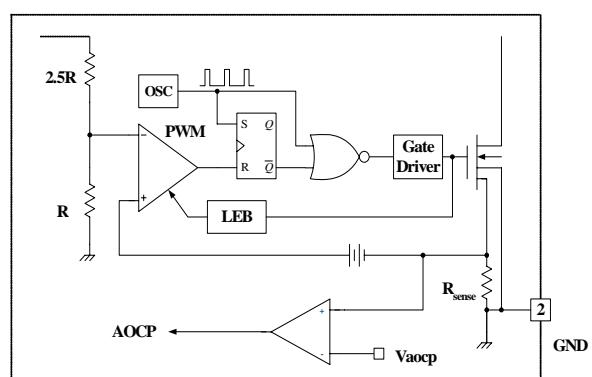

Figure 14. AOCP Block
**4.2 Abnormal Over Current Protection (AOCP):** When the secondary rectifier diodes or the transformer pins are shorted, a steep current with extremely high  $di/dt$  can flow through the SenseFET during the LEB time. Even though the FSCQ-Series has OLP (Over Load Protection), it is not enough to protect the FSCQ-Series in that abnormal case, since severe current stress will be imposed on the SenseFET until the OLP triggers. The FSCQ-Series has an internal AOCP (Abnormal Over Current Protection) circuit as shown in Figure 14. When the gate turn-on signal is applied to the power SenseFET, the AOCP block is enabled and monitors the current through the sensing resistor. The voltage across the resistor is then compared with a preset AOCP level. If the sensing resistor voltage is greater than the AOCP level, the set signal is applied to the latch, resulting in the shutdown of SMPS. This protection is implemented in the latch mode.